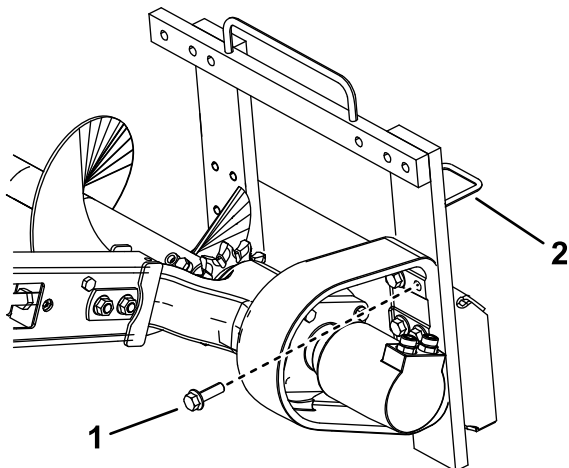

Figure 8
3. Remove the 6 bolts securing the trencher head to the frame (Figure 8).
11. Move the hoses from the hose guide on top of the trencher to the hose guide on the left side (Figure 8).